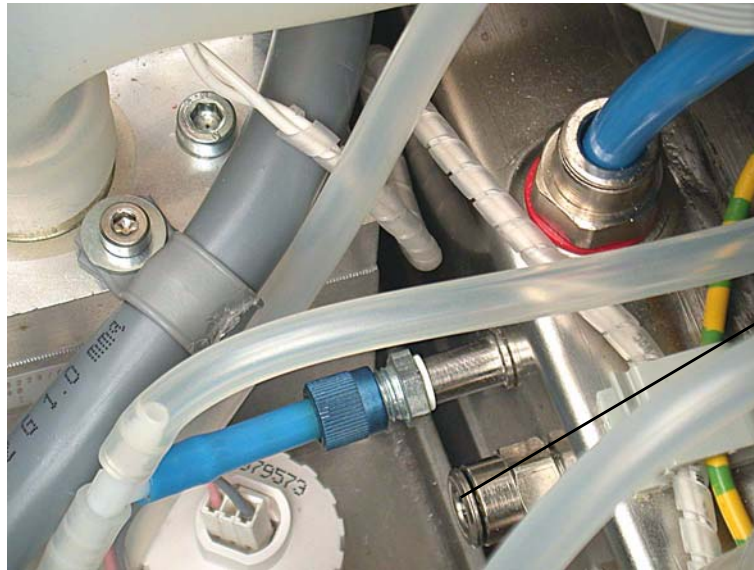

Figure 11-231. The auxiliary pressure tube secured on the stud
5. Fit the auxiliary pressure tube to the stud, using the collar. (Figure 11-231.)